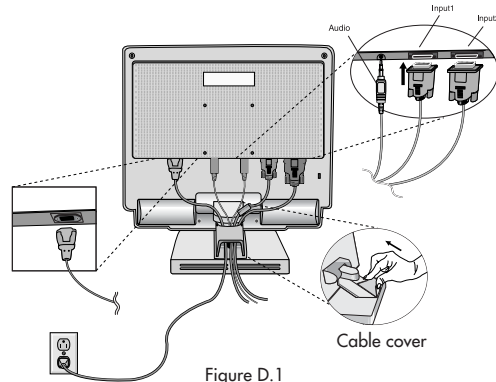

Figure D.1
4. Connect the 15-pin mini D-SUB of the video signal cable and DVI signal cable (not included) to the appropriate connector on the back of the monitor (**Figure D.1**).
5. Connect one end of the power cord to the monitor and the other end to the power outlet. Place the Audio Cable, Video Signal Cable and power cord under Cable cover (**Figure D.1**). Replace cable cover.